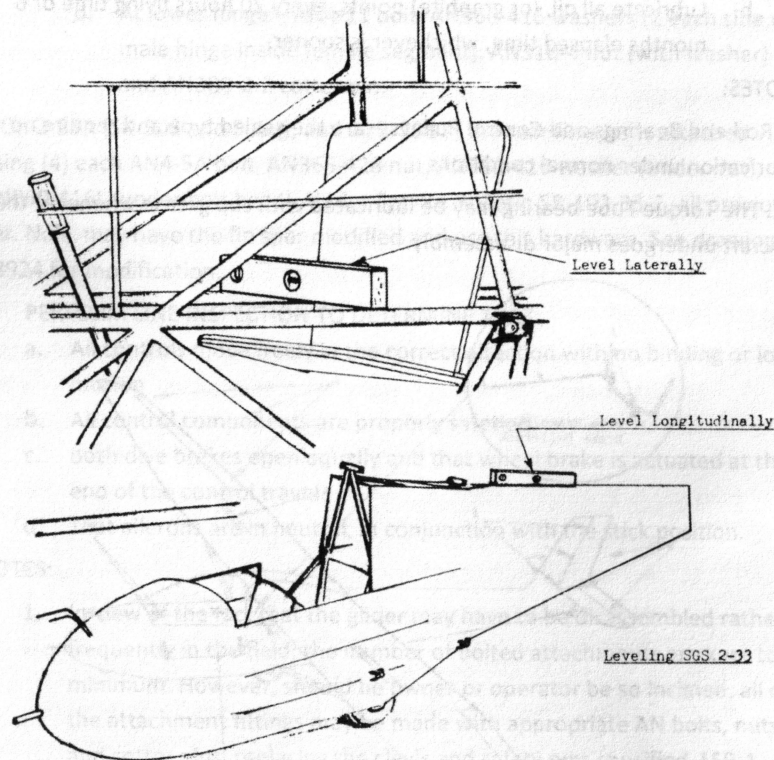

Figure 8-2
- a. To level fuselage laterally, prop up the wing tips and test for horizontal on fuselage members, see Figure 8-2.
- b. To level longitudinally, prop up the tail and test for horizontal on the top Longeron of fuselage aft of wing, see Figure 8-2.